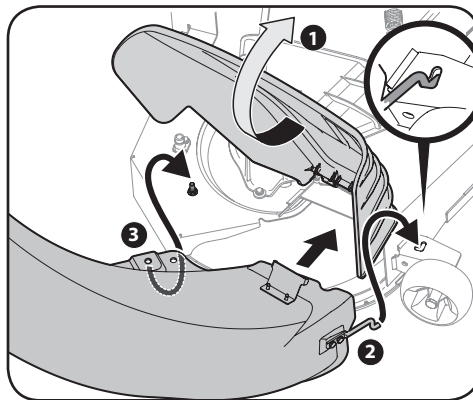

Figure 4-16
- Raise the chute deflector (1 in Figure 4-16) on the deck and hold it while you position the discharge chute over the chute opening.
- Insert the end of the discharge chute elbow (2) into the hole provided in the deck wheel mount as shown in the inset of Figure 4-16.
- Pivot the discharge chute rearward until the hole in the discharge chute elbow aligns with the pin on the deck. Move the discharge elbow down onto that pin as shown in 3 of Figure 4-16.